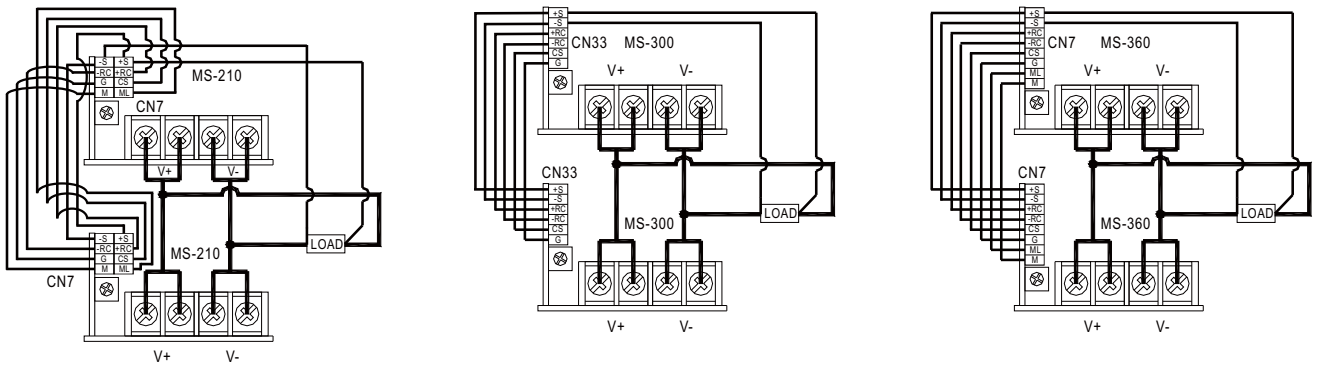

Figure 3-7 Operating in parallel connection
- ⊙ Please connect the output terminal of each output module in parallel first and then connect to the load as shown in Figure 3-7. Don't connect to the load separately.